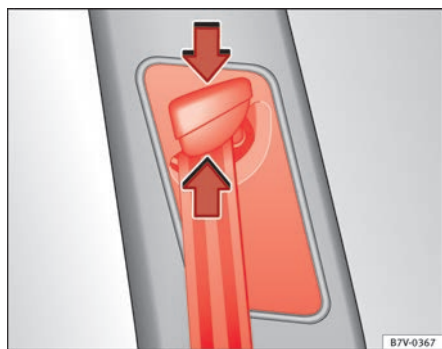

Fig. 15 Next to the front seats: belt height adjuster.
- Keep the guide device pressed down in the direction of the arrow ⇒ fig. 15.